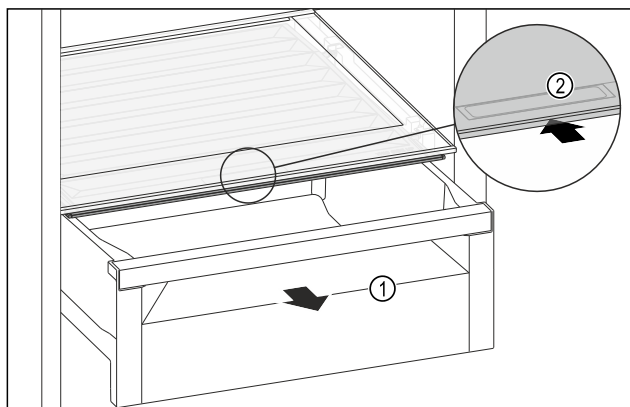

Fig. 109
- Pull out the drawer Fig. 109 (1).
- Grasp the recessed grip Fig. 109 (2) on the compartment lid and push the compartment lid backwards at the same time.